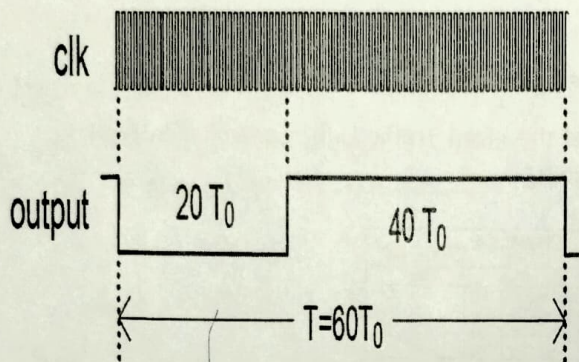

Fig.6. output waveform
- 8.(b) Generate the following Output signal as shown in Fig.6 using Finite State Machine (FSM) based VHDL programming approach where T_0 is the basic one clock period. Assume the clock frequency is 1 Hz and map the output to an LED.